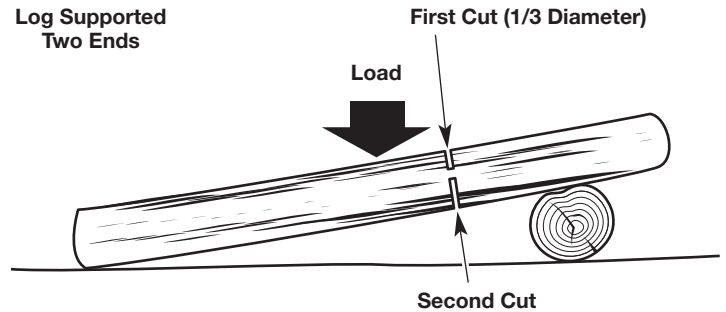

Fig. 20
- If the log is supported on two ends (Fig. 20), make the first cut from above (overbucking). Refer to *Overbucking*.